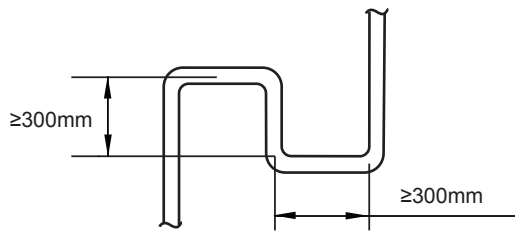

Figure 4.3
- When the outdoor unit is above the indoor unit, and the level difference exceeds 20 m, it is recommended that an oil return bend be set up at every 10 m interval on the gas pipe of the main piping. The recommended specifications of the oil return bend are as shown in figure 4.3.
3. **Requirement 3:** The largest level difference between indoor unit and outdoor unit should not exceed 90m (if the outdoor unit is above) or 110m (if the outdoor unit is below). Additionally: (i) If the outdoor unit is above and the level difference is greater than 20m, it is recommended that an oil return bend with dimensions as specified in Figure 4.3 is set every 10m in the gas pipe of the main pipe; and (ii) if the outdoor unit is below and the level difference is more than 40m, the liquid pipe of the main pipe (L1) should be increased one size.